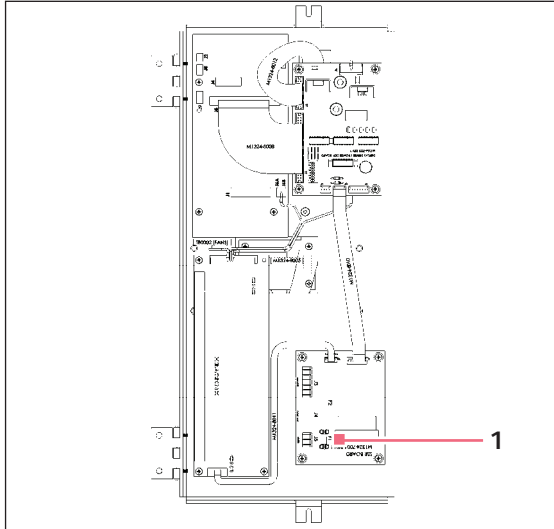

Fig. 7-2: Rear of electrical panel (E25)
E25 models require (1) 8 A electrical fuse, which is housed in the fuse holder located on the M1324-7004 PCB (see Fig. 7-2 on p. 30).